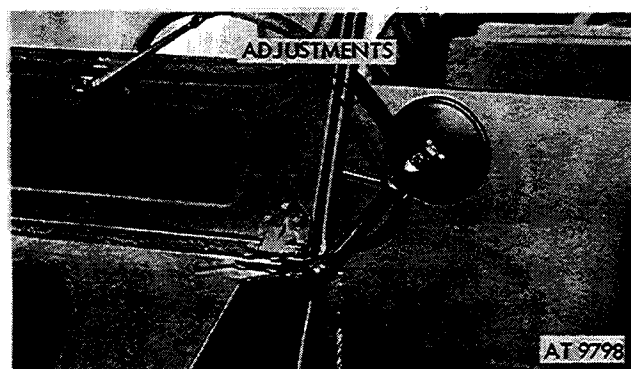

Figure 2-384. Mirror adjustments (M151, M151A1, M151A1C, and M718 vehicles).
includes a mirror with ball joint, an extension arm, mirror main arm bracket wind hinge, and mirror mounting bracket. The mirror assembly is attached to the vehicle body by two bolts which also attach the windshield hinge to the body cowl. The entire mirror assembly can be disconnected from the vehicle body by removing these two bolts (fig. 2-384).
*b. Mirror Adjusting Points.* The mirror has four adjusting points which are shown in figure 2-384.
- (1) Ball joint mirror adjustment and ball joint friction adjusting screw.
- (2) Mirror extension arm friction adjustment.
- (3) Mirror universal friction adjustment.
- (4) Mirror horizontal adjustment.